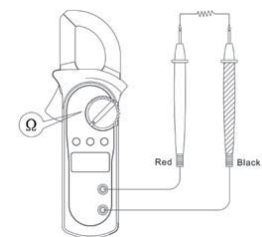

Figure 5
C. Measuring Resistance (See Figure 5)